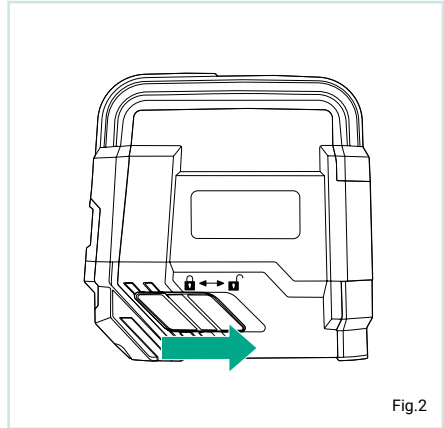

Fig.2
- To turn the laser level on, slide the **power / locking switch** to the “unlocked” position (Fig. 2). Self levelling will commence and the horizontal and vertical beams will activate (Fig.3).